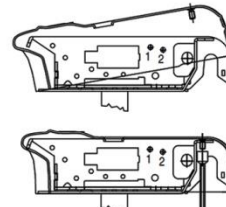

fig. 12
- With the door open, fit the protective casing starting from the handle side, and making sure that the lock back matches the casing (fig. 12).